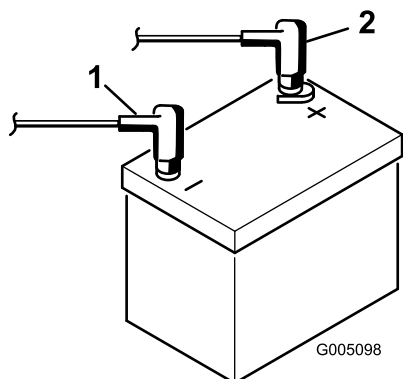

Figure 6
2. Connect the positive battery cable (red) from the starter solenoid to the positive post (+) of the battery (Figure 6). Secure it with a wrench and coat the terminal with petroleum jelly. Ensure that the cable clears the seat, in the rear-most position, which could damage the cable.